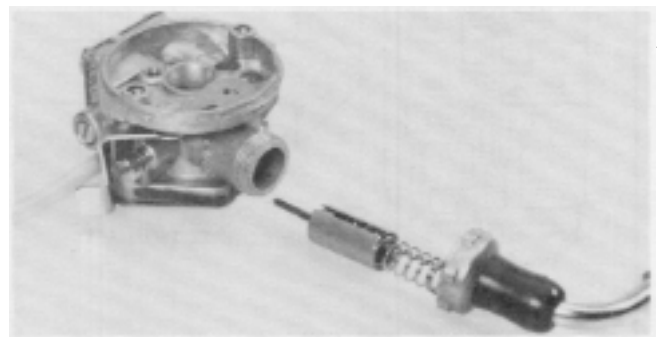

Figure 18
1. Separate the carburetor from the throttle by unscrewing the mixing chamber cap and removing the throttle cable and the attached throttle valve, needle jet, throttle spring and spring retainer. See Figure 18.